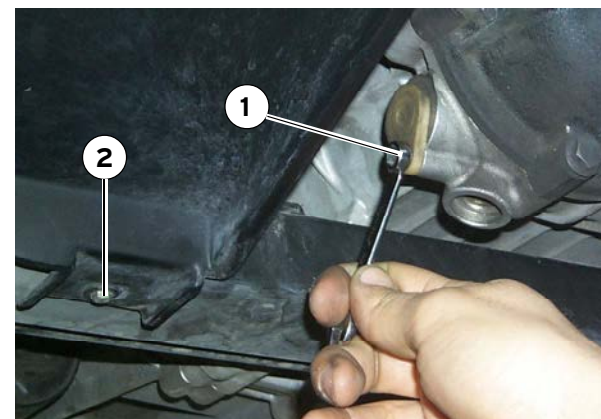

Fig. 1 Gearbox oil filter screw removal
- Unscrew the screw fastening the oil filter to the gearbox (1, Fig. 1).
- Remove the fastening screws (2, Fig. 1) placed under the bumper rim.